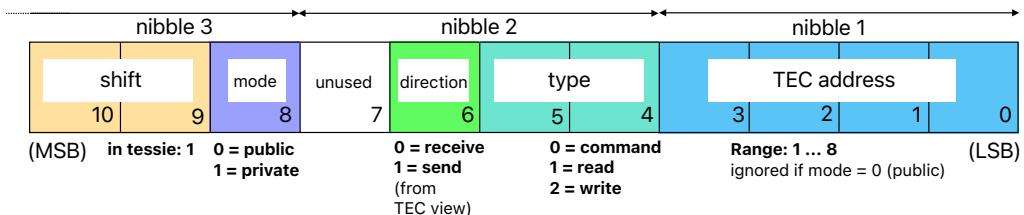

Figure 2: The CAN ID used in the coldbox's CAN bus.
Communication in the CAN bus proceeds through the transfer of frames, consisting (among others) of an ID (identifier), specifier of the data length (in our system: 0, 1, or 5), and the data. Any connected device can transmit data when the bus is free. All connected devices see all transmissions and decide whether or not to accept it, based on the board identifier and one specific bit in the ID. The ID consists of 11 bits illustrated in Fig. 2. Starting at
- The 25x frames correspond to TEC x providing register readout, with the register number given in the first data byte (ranging from 0x00 to 0x14, as provided in Table 2). The digits 25 arise from the `shift bit` and (`send|read`), respectively (cf. Fig. 2).
- Writing to the TEC registers would show up as 32x frames. The digits 32 arise from the (`shift bit|private`) and `write`, respectively (cf. Fig. 2).